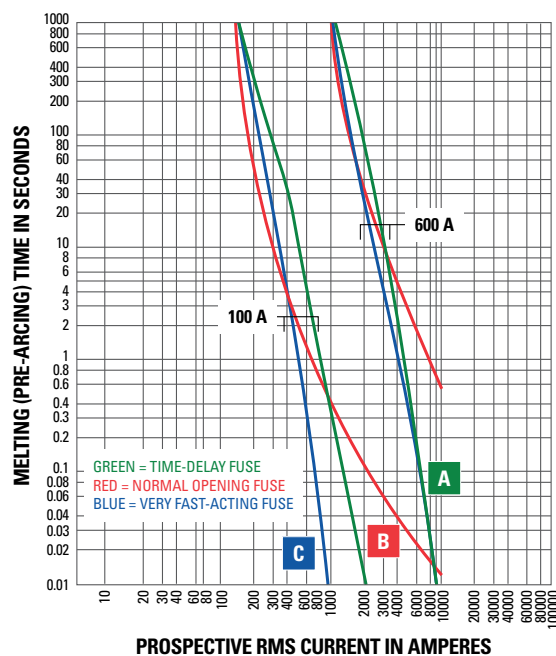

FIGURE 2. Comparison of average melting times for three fuse types.
Time-current curves (see **Figure 2**) show a fuse's average melting (opening) time at any current. To make the curves more readable, the performance information is presented on a logarithmic plot.
Time-delay fuses, fast-acting fuses, and high-speed semiconductor fuses all respond differently based on the overcurrent. **Figure 2** compares the average melting times for 100-ampere and 600-ampere ratings of three fuse types:
- Littelfuse dual-element time-delay LLSRK series class RK1 fuses (see **Figure 2(A)**)
- Littelfuse normal-opening NLS series class K5 fuses (see **Figure 2(B)**)
- Littelfuse L60S series high-speed fuses (see **Figure 2(C)**)